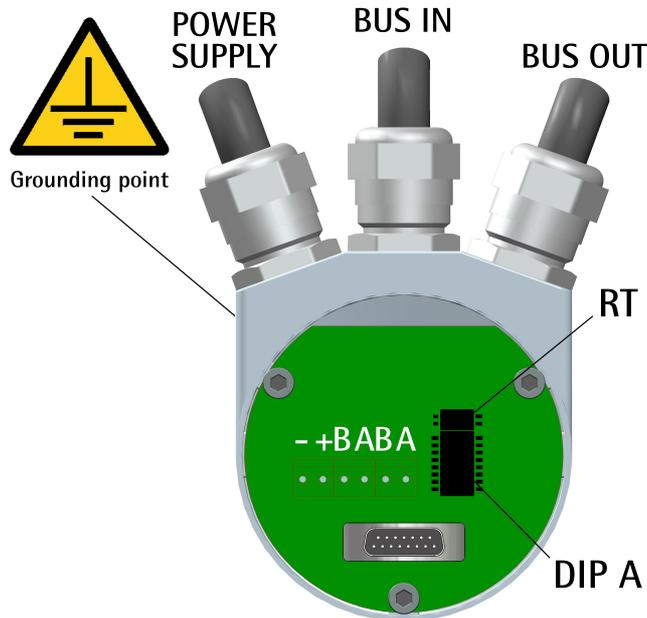

Figure 1
4.2 CC-PB connection cap with PGs (Figure 1)
4.6 Node address: DIP A (Figure 1 and Figure 2)